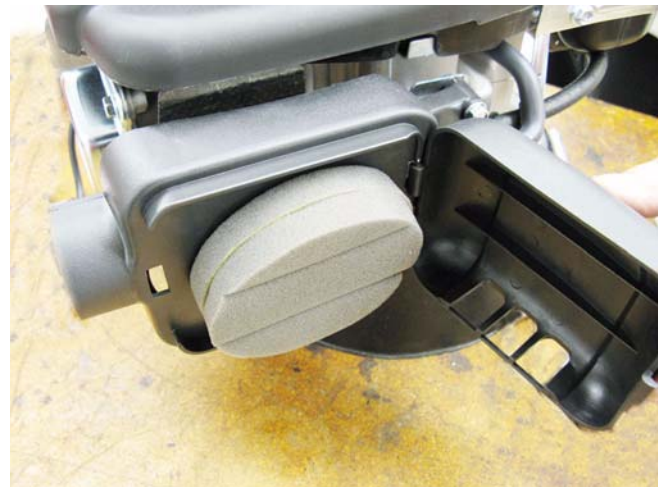

Figure 3.6
2. Swing open the filter cover. See Figure 3.6.